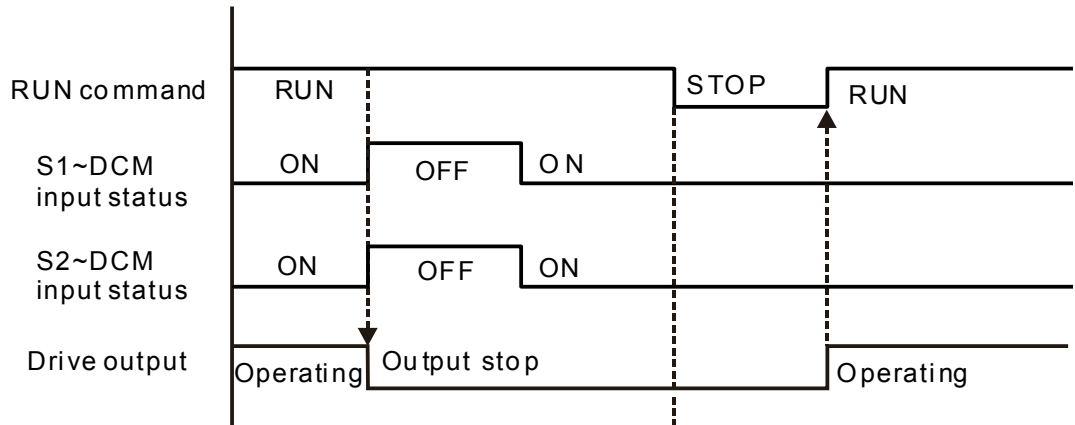

Figure 7
As shown in Figure 7: When both of S1~DCM and S2~DCM are OFF during operation (STO function is required), the drive will stop outputting. When the S1 / S2 status is restored (ON), the STO automatic alarm is automatically cleared. The drive can output when RUN command is released again.